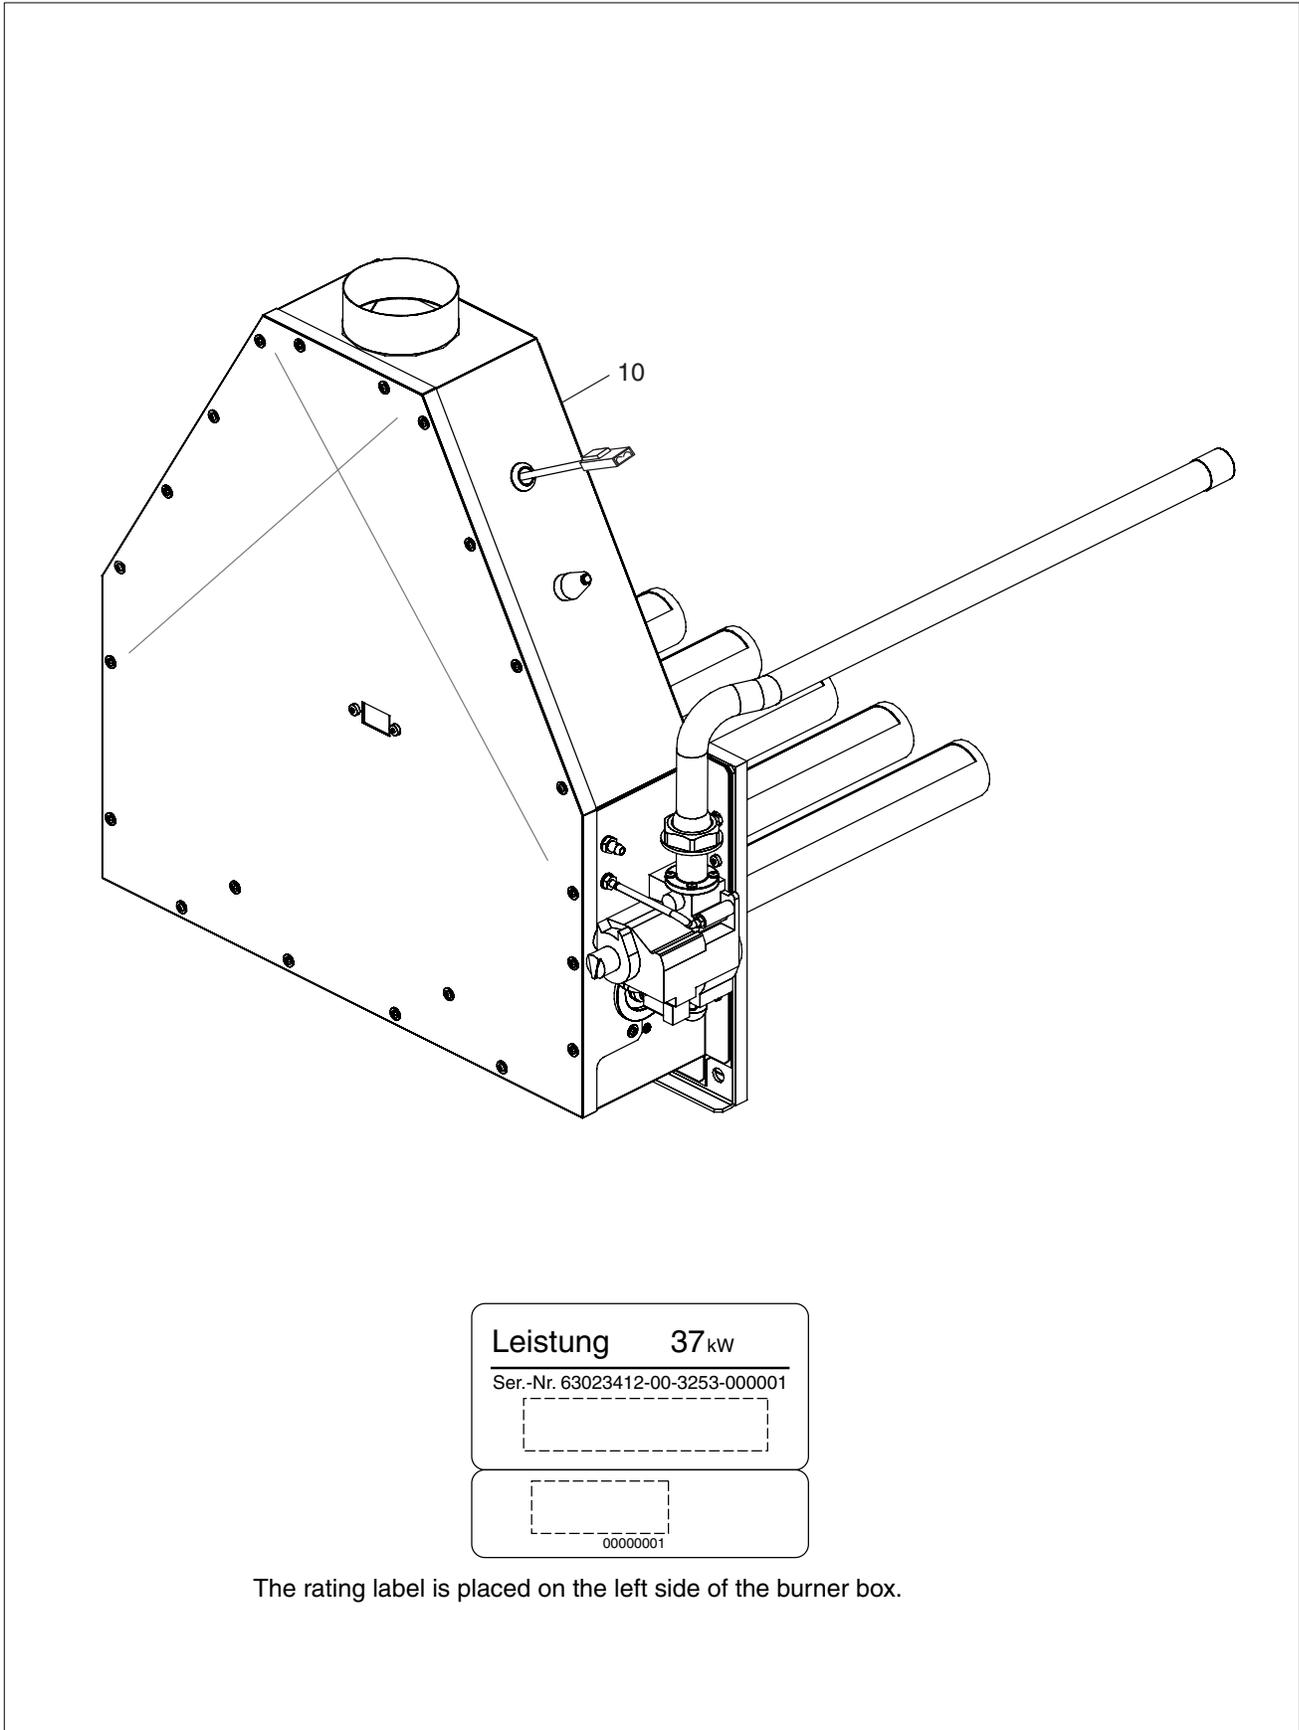

Fig. 48 Burner tray assembly, Gas conversion kits
**Types of Burners, Conversion Kits (Fig. 48)**